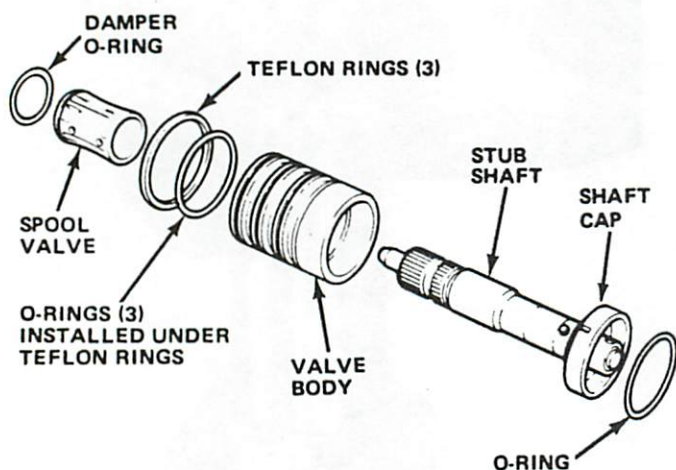

Fig. 2L-26 Valve Body Components
(1) Remove and discard stub shaft cap O-ring (fig. 2L-26).
(2) Hold valve body assembly in both hands with stub shaft pointing downward. Tap end of stub shaft lightly against wood block until shaft cap is free of valve body (fig. 2L-27).
(3) Pull stub shaft outward until shaft cap clears valve body by approximately 1/4 inch (6 mm).